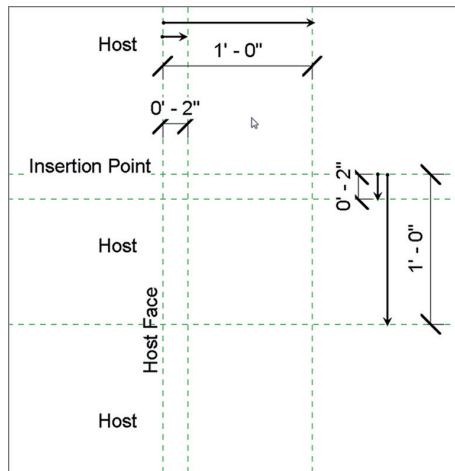

FIGURE BC2.5: Adding the dimensions to the reference planes
5. Add a dimension from the top reference plane to the reference plane 2" (50 mm) down (see Figure BC2.5).